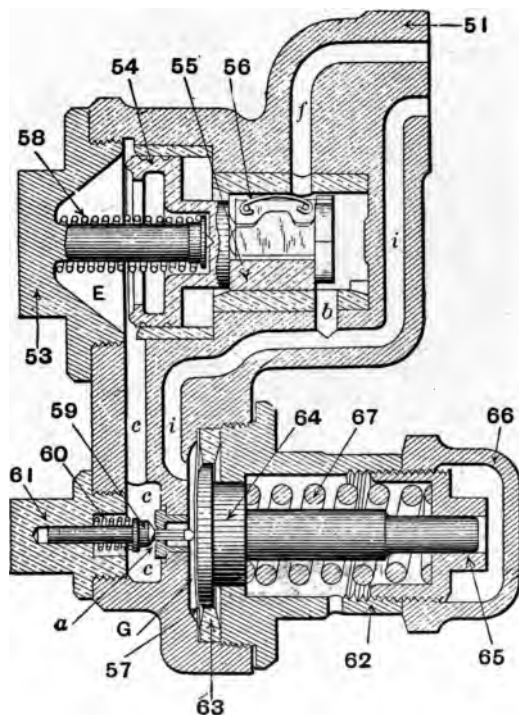

Fig. 530. Slide Valve—Feed Valve Open.
**Answer.** To the slide-valve feed valve (Figs. 530 and 531).